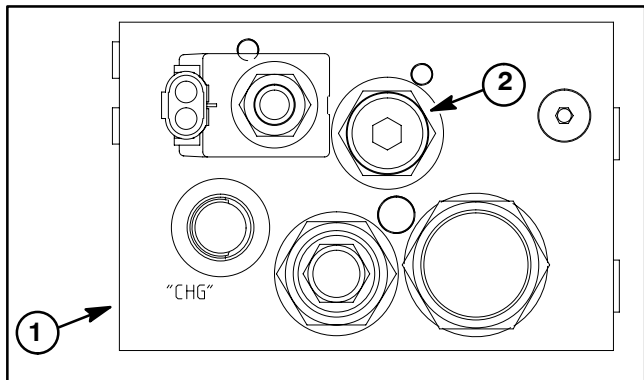

Figure 32
6. Relief valve (RV5) is located on the lower, front side of the 2WD/4WD control manifold (Fig. 32). Adjustment of the relief valve can be performed as follows: